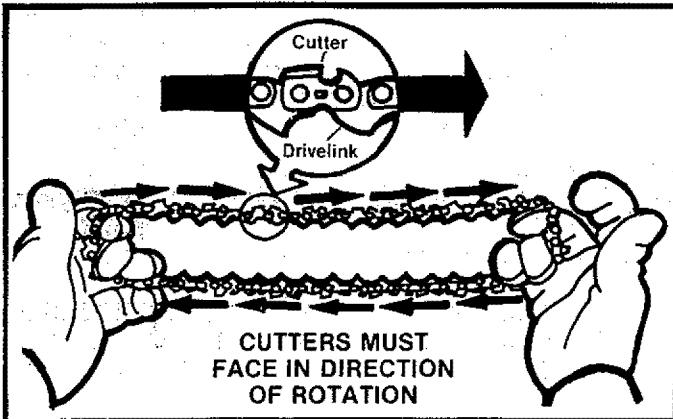

Figure 5
4. Hold chain with cutters facing as shown in Figure 5.